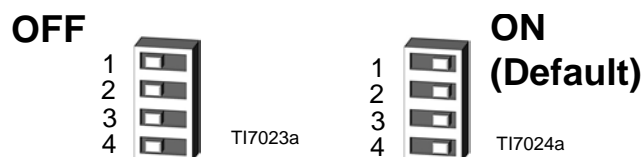

FIG. 48. DIP Switch (SW2) Settings
2. Set the four DIP switches to the desired positions. See FIG. 48 and Table 2.